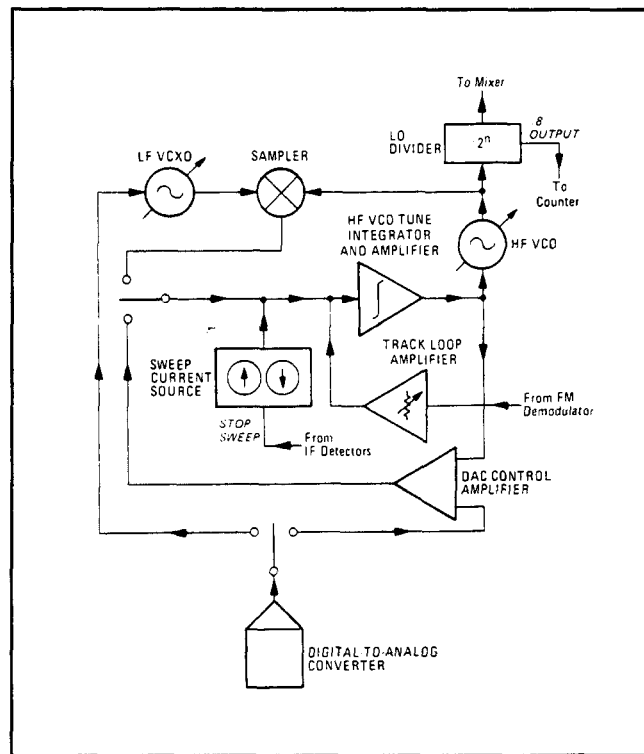

*Figure 8D-3. LO Configuration: HF VCO Sweep*
**Automatic Tuning and Low Noise.** The automatic tune mode is similar to the manual tune mode except the LO is first swept from the top to the bottom of each octave range by the Sweep Current Source. See Figure 8D-3. If the LO sweeps past a signal at the INPUT, the down-converted signal appears in the IF and is detected by the IF Detectors. The signal on the Stop Sweep line immediately turns off the Sweep Current Source. With no input to the Tune Integrator and Amplifier, the HF VCO will remain approximately tuned to the input signal, and the frequency of the LO (and thus the input) can be determined by the Controller. Once the signal has been found after a sweep of all octaves, it is found four more times by sweeping just the octave where it was first found and two octaves above it. This is necessary in case the signal has AM which was in a deep trough when the fundamental of the LO passed through and was out of the trough when the strong third harmonic of the LO passed through.